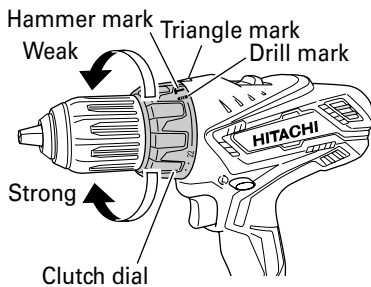

Fig. 5
1. Confirm the clutch dial position (see Fig. 5)
3. Rotation to Impact changeover (See Fig. 5)